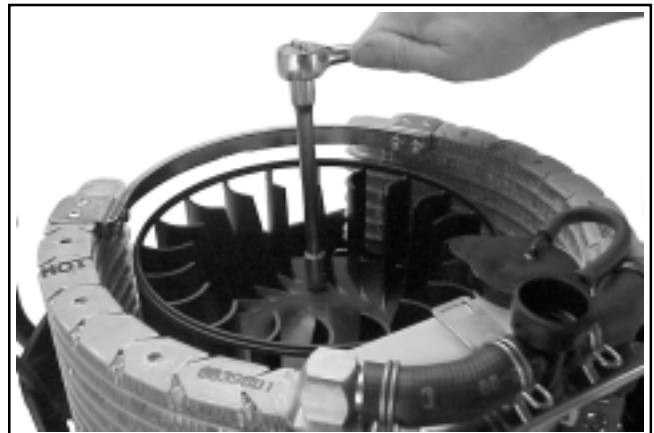

Figure 9-22. Removing Flywheel Fan.
1. Remove the four shoulder screws securing the fan to the flywheel and remove the fan. See Figure 9-22.